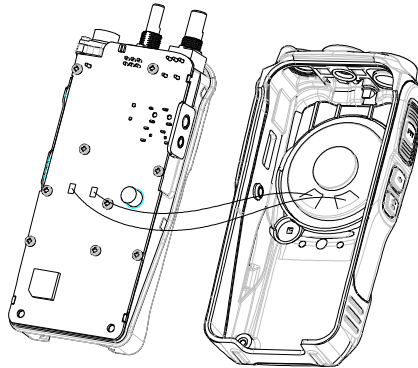

Figure 7
- ⑦ The disassembled radio is shown as figure 7.